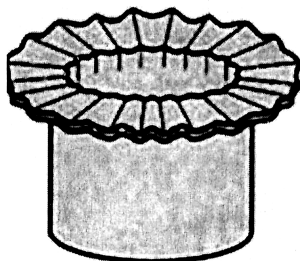

Figure 1
- (a) Figure 1 shows a type of common defect in deep drawing process. What is the name of the defect? What is the cause for the defect. Suggest a method to avoid the defect.